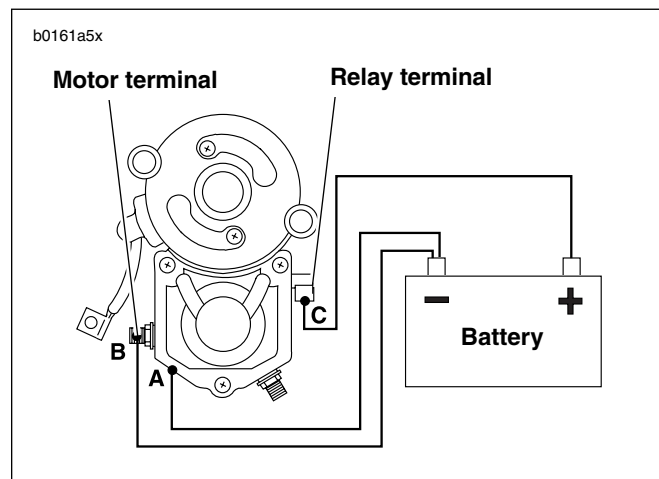

Figure 5-11. Pull-In Test
- Do not disassemble solenoid. Before testing, disconnect field wire from motor terminal as shown in Figure 5-11.
1. See Figure 5-11. Using a 12 volt battery, connect three separate test leads as follows: